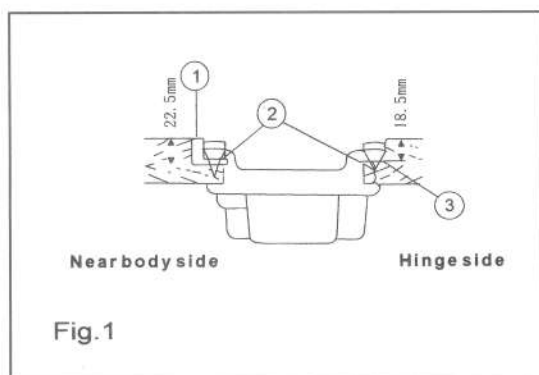

Fig.1
4. Installation of the machine(Fig.1)
Put the oil reservoir rubber cushion ① and oil reservoir felt cushion ③ on four corners of the opening of the table, fix them with the wood screws ②, then install the oil reservoir (Fig1).